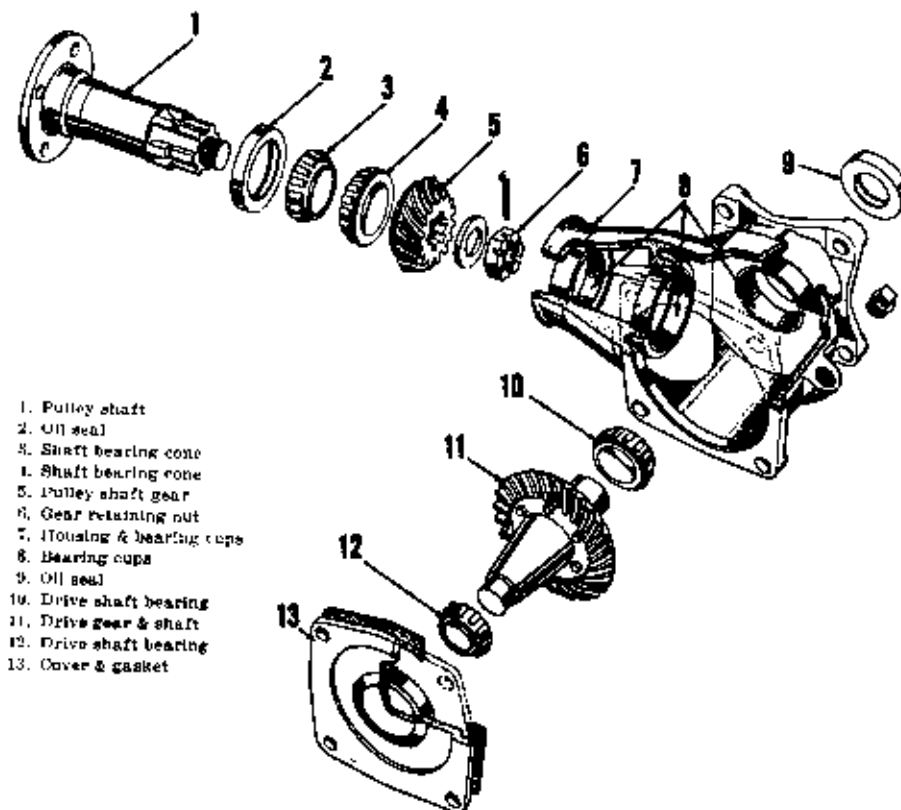

Fig. FO70—Components of the belt pulley assembly.
113. Overhaul procedure is as follows: Drain lubricant and remove housing cover (13—Fig. FO70) and gasket. Remove castellated nut (6) from inner end of pulley shaft. This nut must be unscrewed in stages as shaft is being removed. Withdraw shaft (1) and remove drive shaft and gear (11) out through housing cover opening.